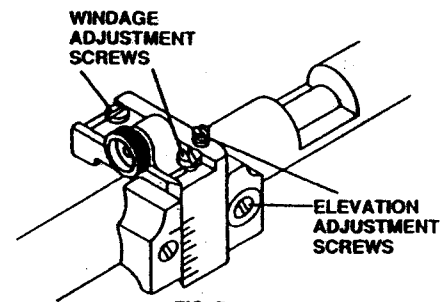

FIG. 7
Then turn the elevation screw on the top of the sight clockwise to make the pellet hit higher on the target and counterclockwise to make the pellet hit lower on the target. After making your adjustments retighten the elevation adjustment screw on the right side of the sight. (Fig. 7)
- The peep sight may also be adjusted to shoot right or left (windage). First loosen the 2 windage adjustment screws. Then slide the sight to the right to make the pellet hit further to the right on the target or slide the sight to the left if you want to make the pellet hit further to the left on the target. After making your adjustments, retighten the windage adjustment screws. (Fig. 7)